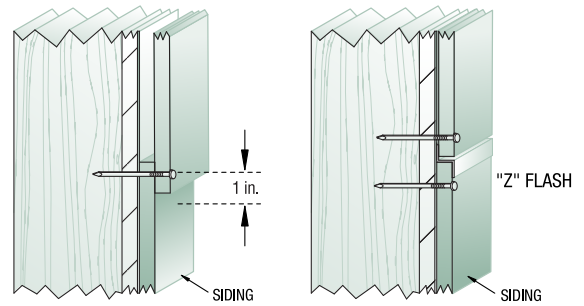

FIG. 4
- At horizontal joints with stacked panels or other types of siding, overlap siding 1 in. or use Z flashing and fasten as shown. *See Fig 4.*